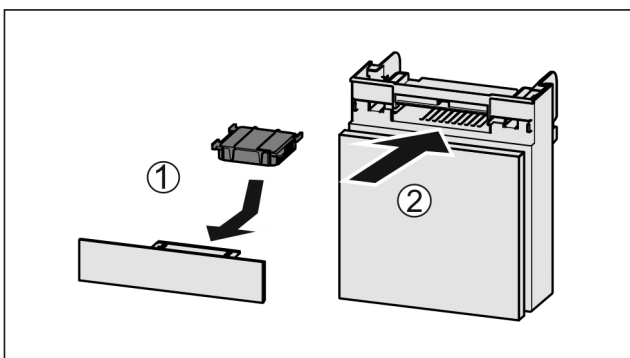

Fig. 127
- ▶ Insert the carbon filter as shown in the diagram Fig. 127 (1).
- ▶ Push the compartment in Fig. 127 (2).